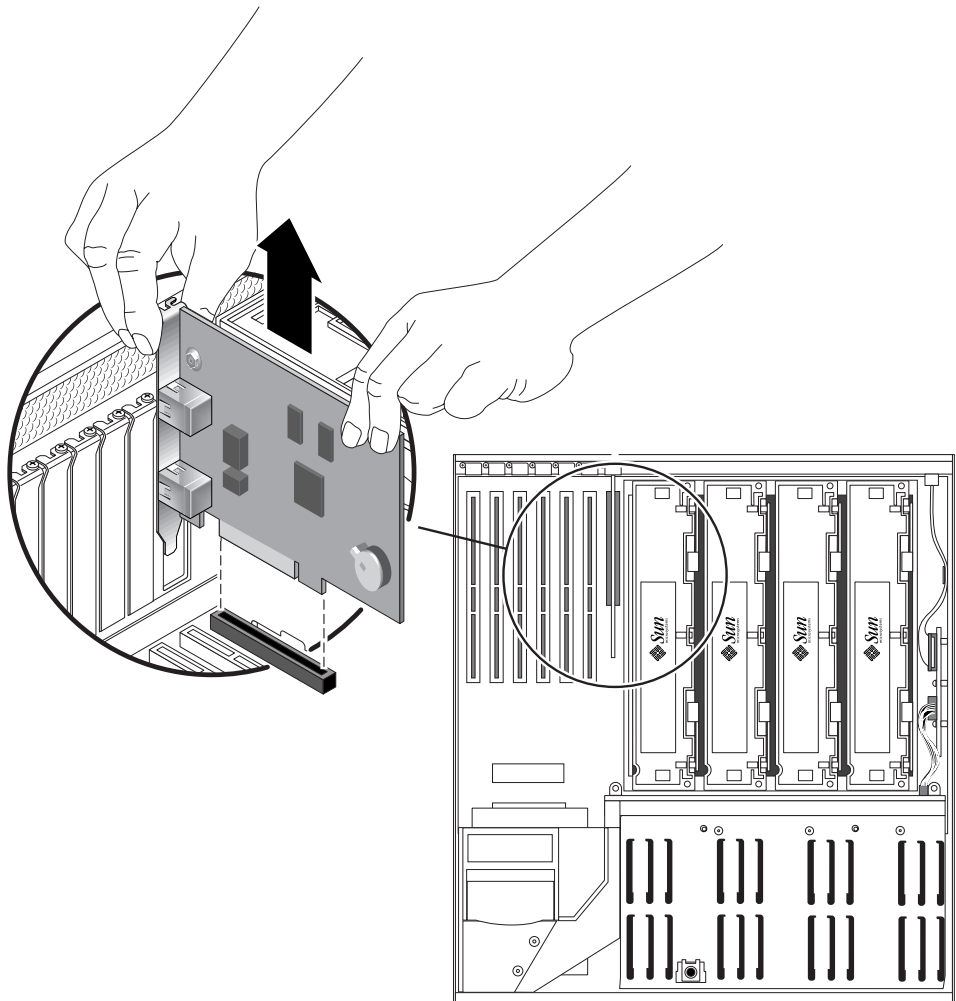

FIGURE 4-29 Removing the ALOM System Controller Card
8. **Using equal force on both ends of the ALOM system controller card, pull the card straight up from its slot (FIGURE 4-29).**